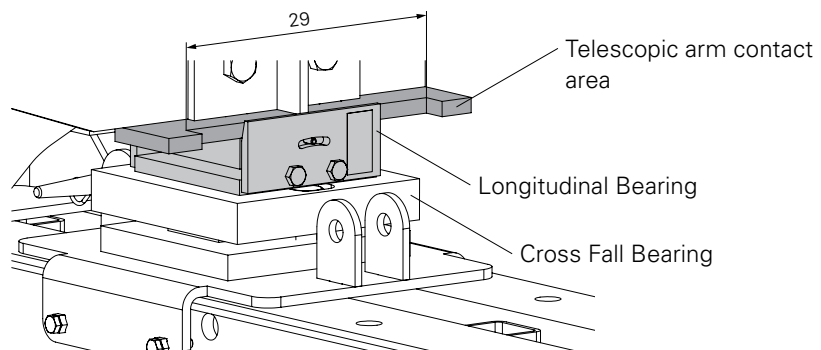
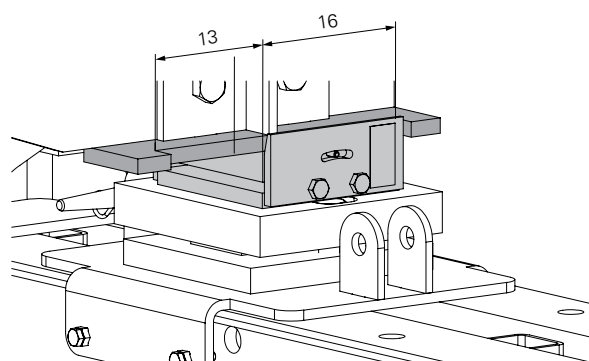

Fig. B1.05
Fig. B1.06
- The Bearing Frame has a 29-cm-long recess. This allows longitudinal adjustment of the truss package by up to 13 cm. (Fig. B1.05 + Fig. B1.06)
- If the Horizontal Bearing (23) has to be laterally moved to achieve the exact position, see "Aligning the Horizontal Bearing" on Page 37.
Does the Bearing Frame completely lie in the Longitudinal Bearing? (Fig. B1.06)
(Fig. B1.06)